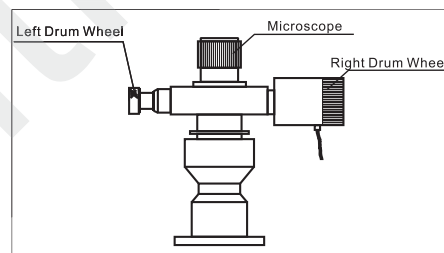

Fig 8
6.1 Usage of the Digital Microscope (see Fig.8): The digital microscope supplier is mainly used for the measurement of the indentation of the Brinell hardness. Its structure is simple and its operation is easy. When the indentation diameters  $d_1$  and  $d_2$  are input, the LED screen directly shows the Brinell hardness.